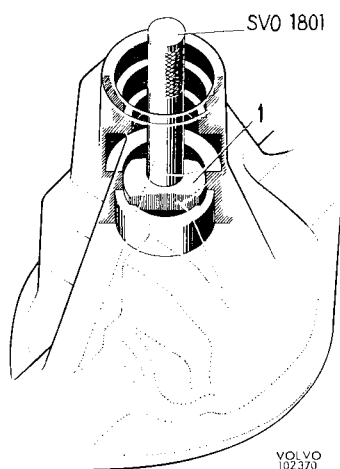

Fig. 4-143. Rear pinion bearing race removal
9. If necessary, drive out the rear bearing outer ring out of position, see Fig. 4-143. Use standard handle 1801 and drift 2843.